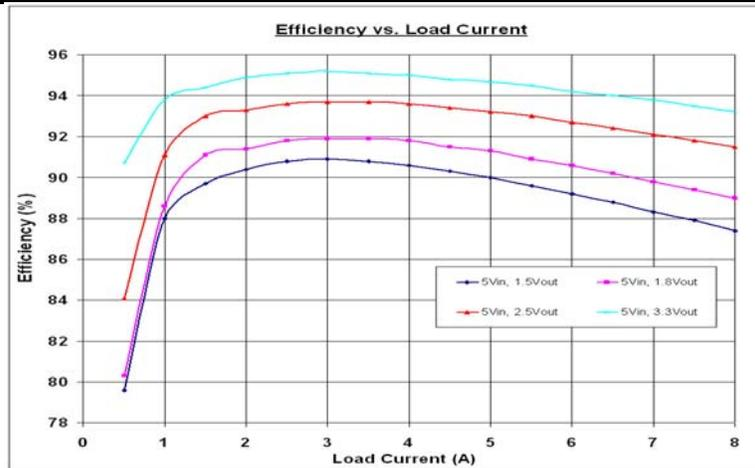

Figure 3. Typical Supply Efficiency vs Load Current of DC1320A-A at Vin=5V
6. Typical efficiency curves are shown in Figure 3, Figure 4 and Figure 5.